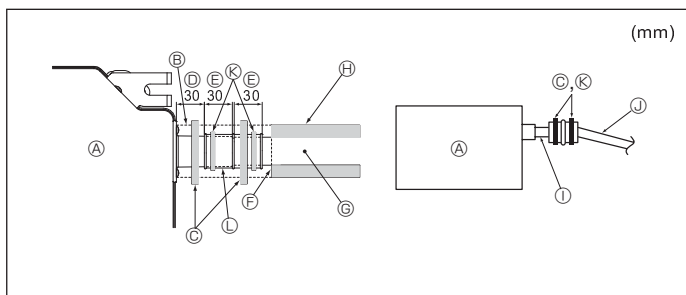

Fig. 3-5
- ④ Up to 850 mm
1. Connect the drain socket (supplied with the unit) to the drain port. (Fig. 3-5) (Affix the tube using PVC adhesive then secure it with a band.)